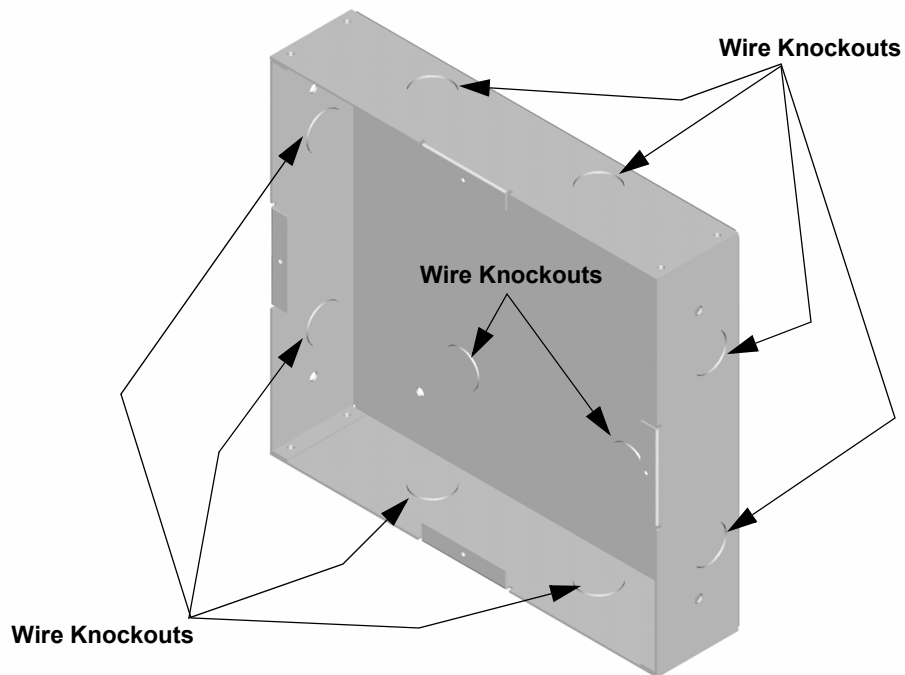

Figure 4.26 Backbox Knockout Locations
2. Remove knockout holes as needed for wires. See Figure 4.26 for backbox knockout locations
1. Remove the desired knock out. See Figure 4.26.